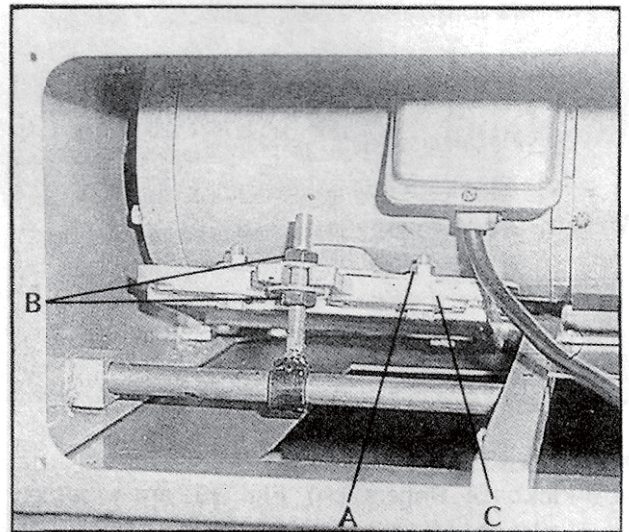

Fig. 23
3. Board (A) Fig. 23, underneath the motor plate as shown.
4. Loosen two bolts (B) Fig. 23, and pry up on the motor plate until correct belt tension is obtained. Correct tension is obtained when there is approximately 1/4" deflection in the center span of the belts using light finger pressure. Then tighten two bolts (B) Fig. 23, and replace side cover.